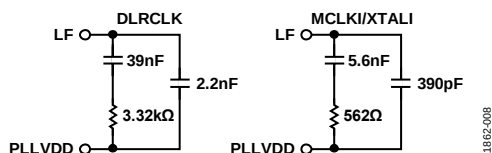
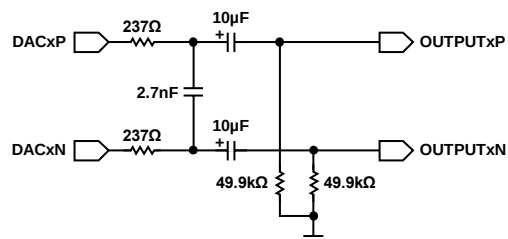
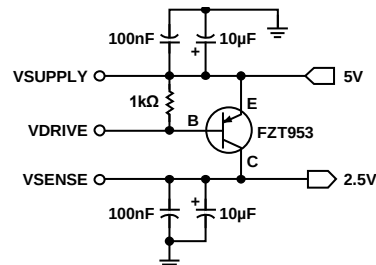
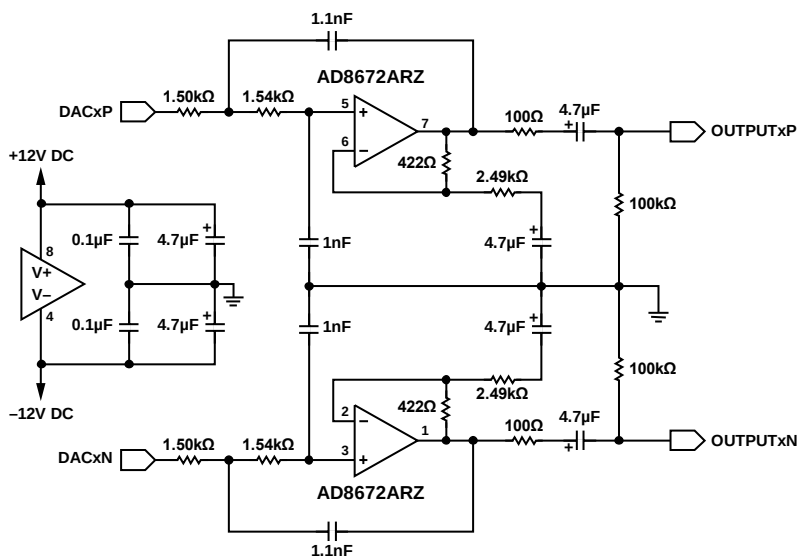

Figure 8. Recommended Loop Filters for DLCLK and MCLKI/XTALI Reference Modes
Figure 9. Typical DAC Output Passive Filter Circuit (Differential)
Figure 10. Recommended External Regulator Circuit
Figure 11. Typical DAC Output Active Filter Circuit (Differential)
Typical application circuits are shown in Figure 8 to Figure 11. Recommended loop filters for the DLCLK and MCLKI/XTALI modes of the PLL reference are shown in Figure 8. Output filters for the DAC outputs are shown in Figure 9 and Figure 11, and a recommended external regulator circuit is shown in Figure 10.
The differential analog outputs require a mere single-order, passive differential resistor-capacitor (RC) filter to provide the specified DNR performance (see Figure 9 for an example filter). The outputs can easily drive differential inputs on a separate printed circuit board (PCB) through cabling, as well as differential inputs on the same PCB.
If more signal level is required or if a more robust filter is needed, a single op amp gain stage, designed as a second-order, low-pass Bessel filter, can be used to remove the high frequency out-of-band noise present on each pin of the differential outputs. The choice of components and design of this circuit are critical to obtaining the full DNR yield of the DACs (see the recommended passive and active circuits in Figure 9 and Figure 11). This filter can be built into an active differential amplifier to provide a single-ended output with gain, if necessary. Note that the use of op amps with low slew rate or low bandwidth can cause high frequency noise and tones to fold down into the audio band; exercise care when selecting these components.
The ADAU1962 PLL can also be programmed to run from an external LRCLK without an external master clock. Setting the PLLIN bits in the PLL_CLK_CTRL0 register to 0b01 and connecting the appropriate loop filter to the LF pin (see Figure 8), the ADAU1962 PLL generates all of the necessary internal clocks for operation with no external master clock. This mode reduces the number of high frequency signals in the design, reducing EMI emissions.